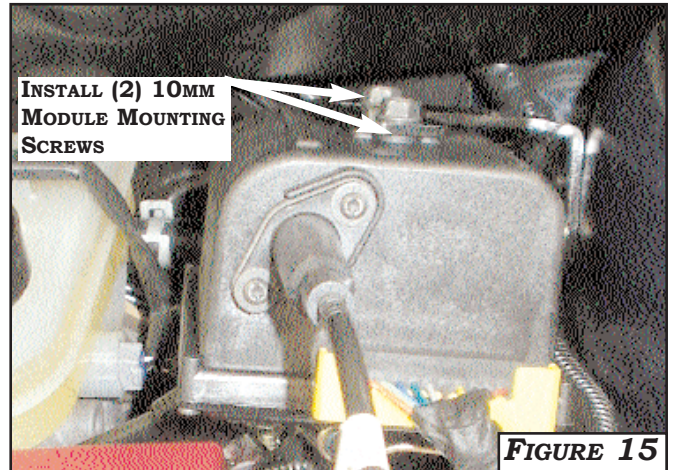

FIGURE 15
16. INSTALL **(2)-10MM SCREWS** AND TIGHTEN TO **48.72-57.48LBS*IN**. **FIGURE 15**